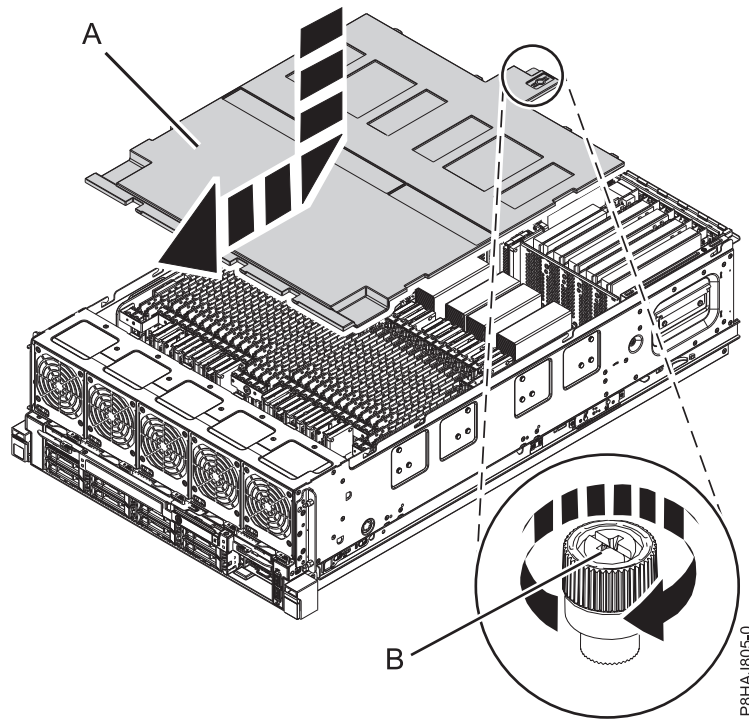

Figure 70. Replacing the safety cover
2. Push the safety cover (A) toward the chassis.
3. Tighten the thumbscrew (B) by turning it in the direction shown in Figure 70 on page 103 to fix the safety cover to the chassis.